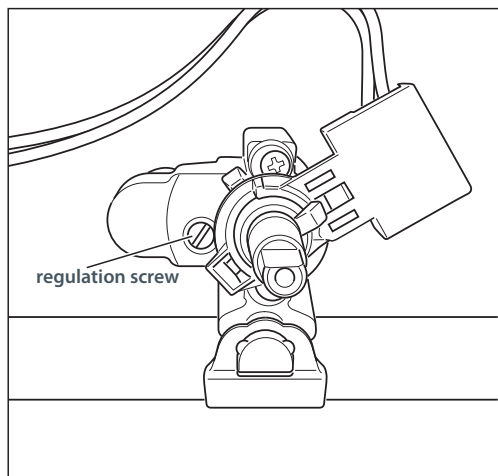

Fig. 12 Adjusting the minimum burner setting: semi-rapid and triple-ring wok burner
- 4 Using a small flat screwdriver, turn the screw (see Fig. 12) to the correct regulation.